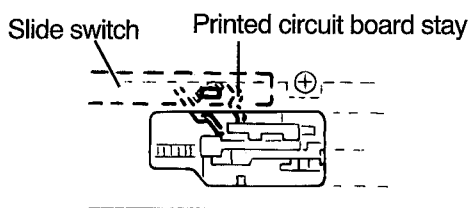

Fig. 18
- Note : Install it so that the slide switch lever of the head relay board is set in the printed circuit board stay hook of the sub chassis assembly. (See Fig. 18)